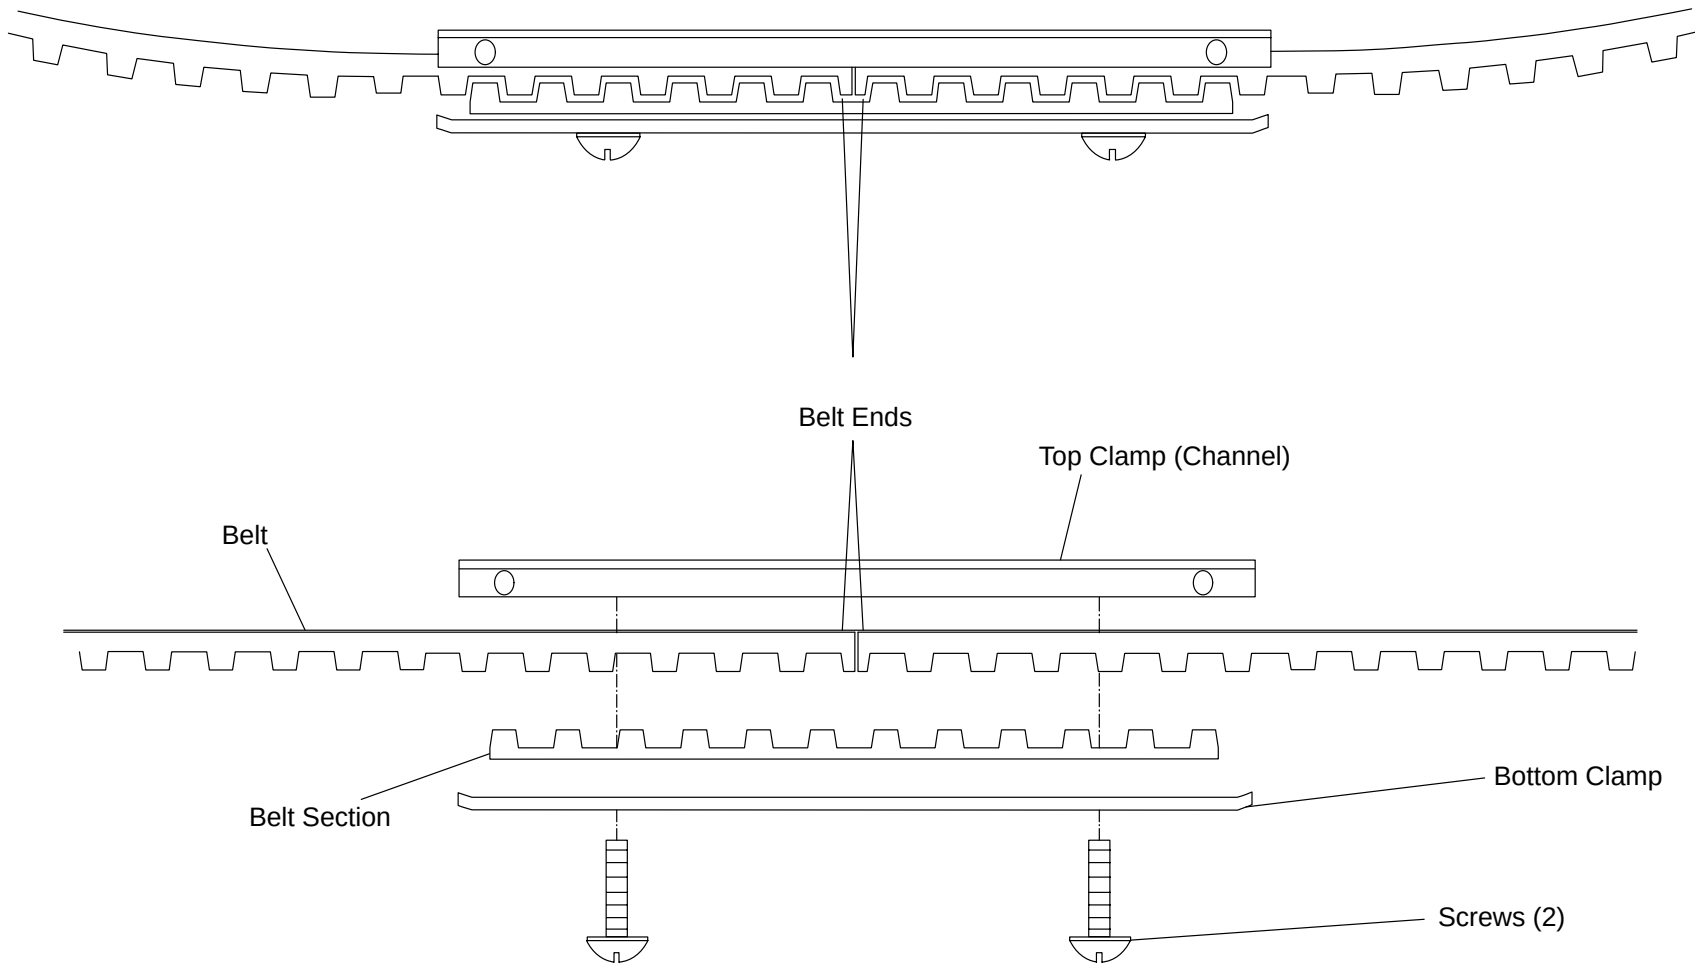

FIGURE 202 Belt Hook Assembly
11. Remove the two Screws that attach the top and bottom clamp of the Belt Hook Assembly. See Figure 202.